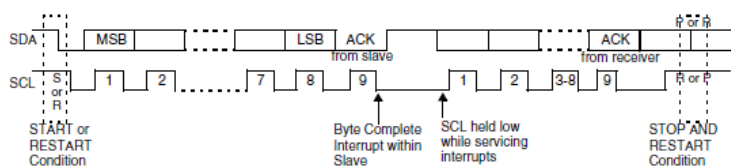

Figure 21: Data Transfer on the I2C Bus
If the master (master-transmitter) is writing to the slave (slave-receiver), the receiver gets one byte of data. This transaction continues until the master terminates the transmission with a STOP condition. If the master is reading from a slave (master-receiver), the slave transmits (slave-transmitter) a byte of data to the master, and the master then acknowledges the transaction with the ACK pulse. This transaction continues until the master terminates the transmission by not acknowledging (NACK) the transaction after the last byte is received, and then the master issues a STOP condition or addresses another slave after issuing a RESTART condition. This behavior is illustrated in Figure 21.
**Note 4:** The signal transitions for the START/STOP conditions, as depicted in Figure 21, reflect those observed at the output signals of the Master driving the I2C bus. Care should be taken when observing the SDA/SCL signals at the input signals of the Slave(s), because unequal line delays may result in an incorrect SDA/SCL timing relationship.